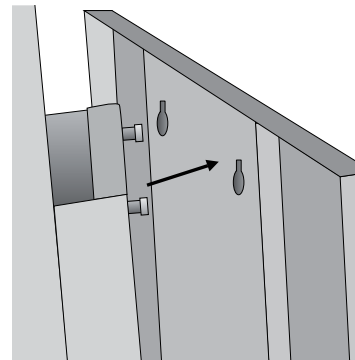

Figure 7
6. Align the top two bolts with slotted bolt holes at the top of the carriage and hang in place. (See Figure 7)